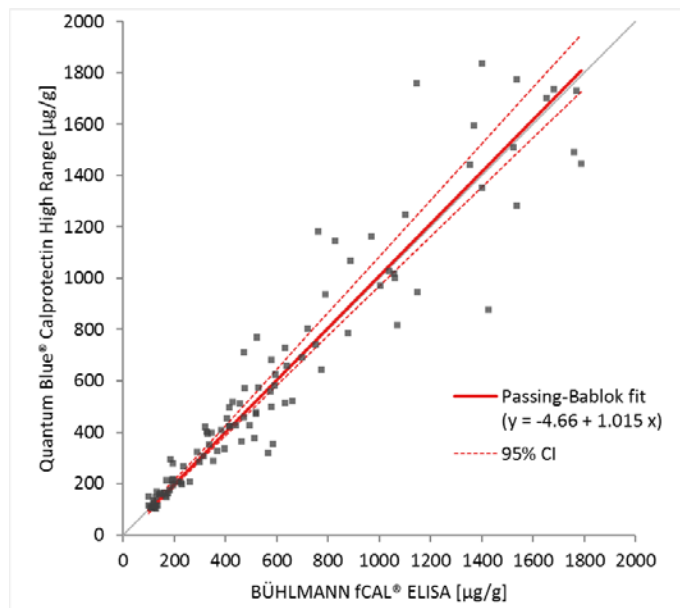

Figure 4
The method comparison study was performed according to the CLSI guideline EP09-A3. One hundred and three (103) samples were measured according to the instruction for use with the Quantum Blue® fCAL high range test and with the BÜHMANN fCAL® ELISA. Measurements were performed over three days using two Quantum Blue® fCAL high range test cassette lots. The correlation data is illustrated in Figure 4.